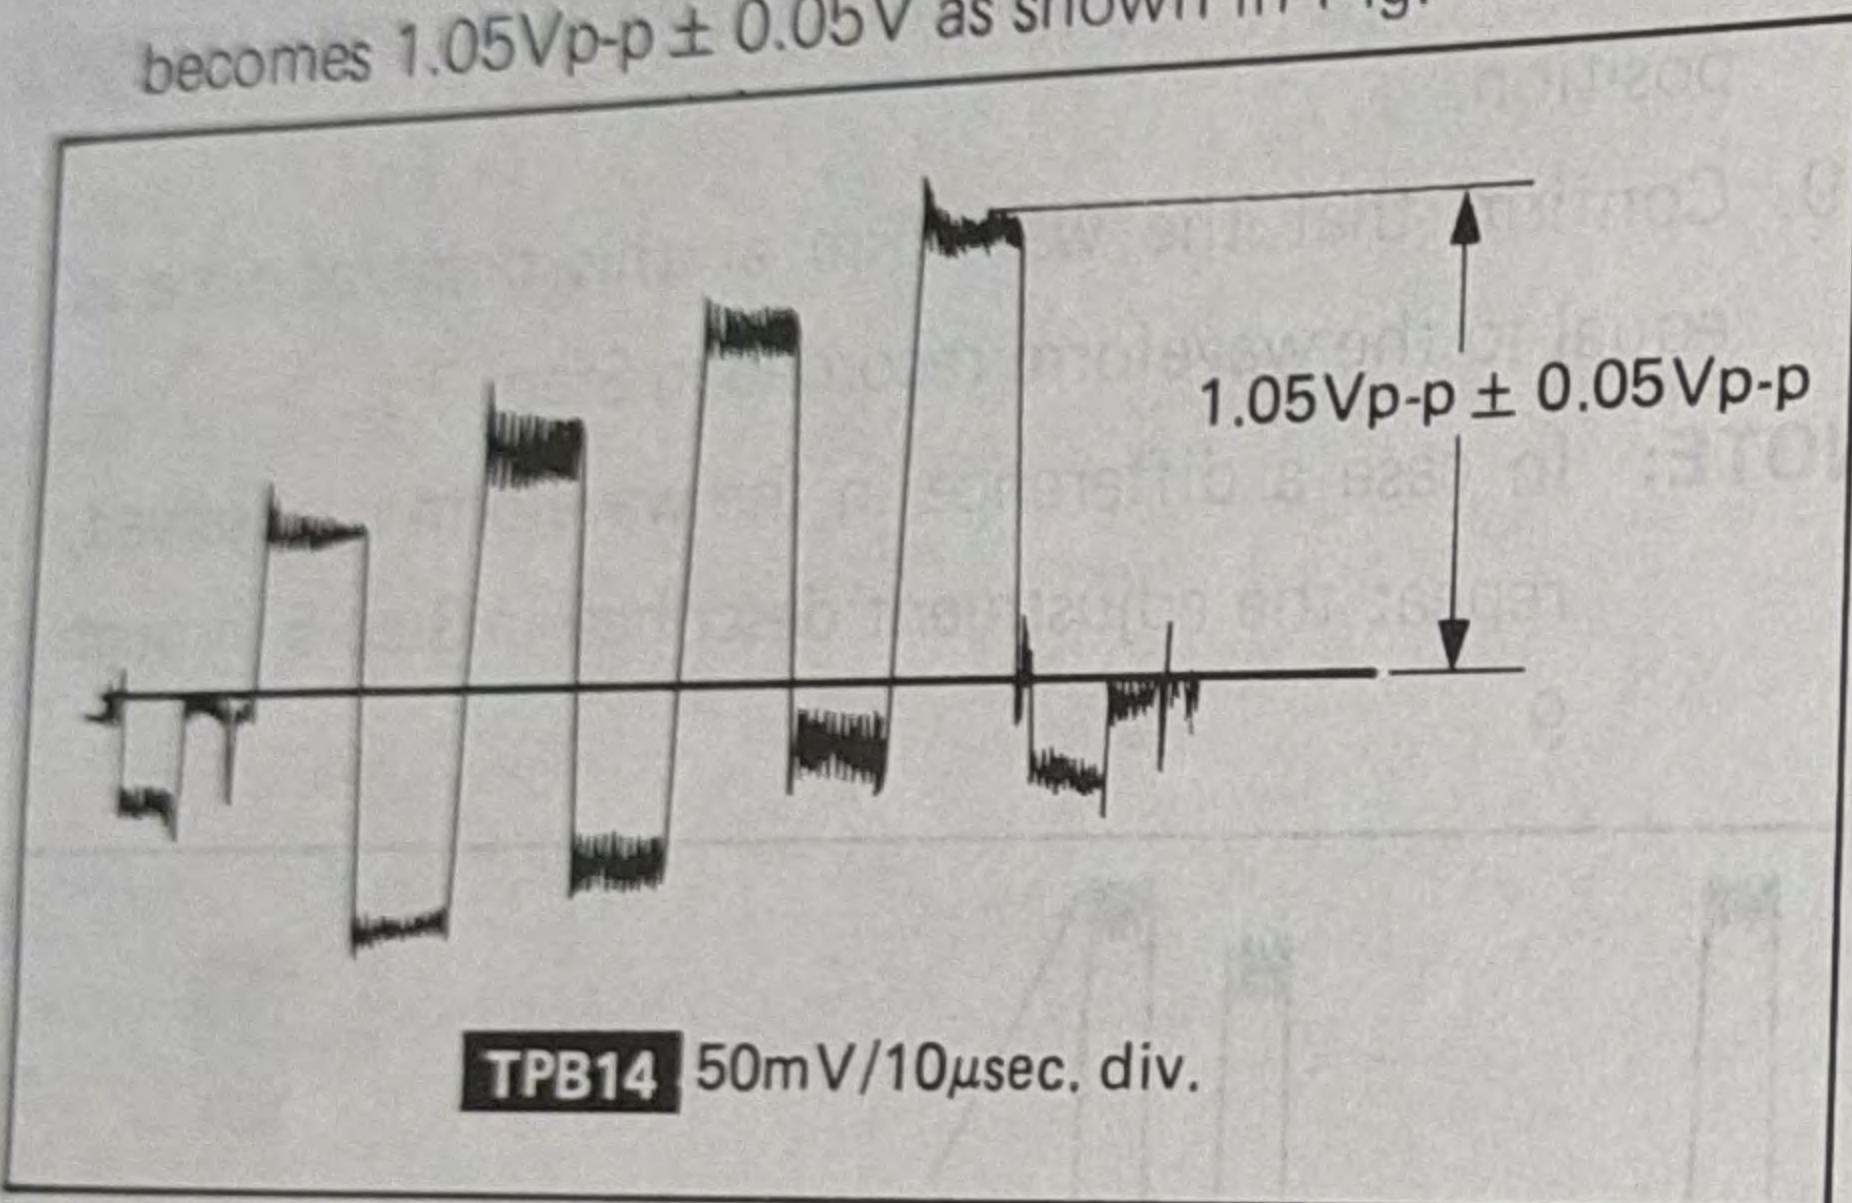

Fig. 40
6. Adjust R5106 (Sub. Color) so that the waveform **TPB14** becomes $1.05Vp-p \pm 0.05V$ as shown in Fig. 40.